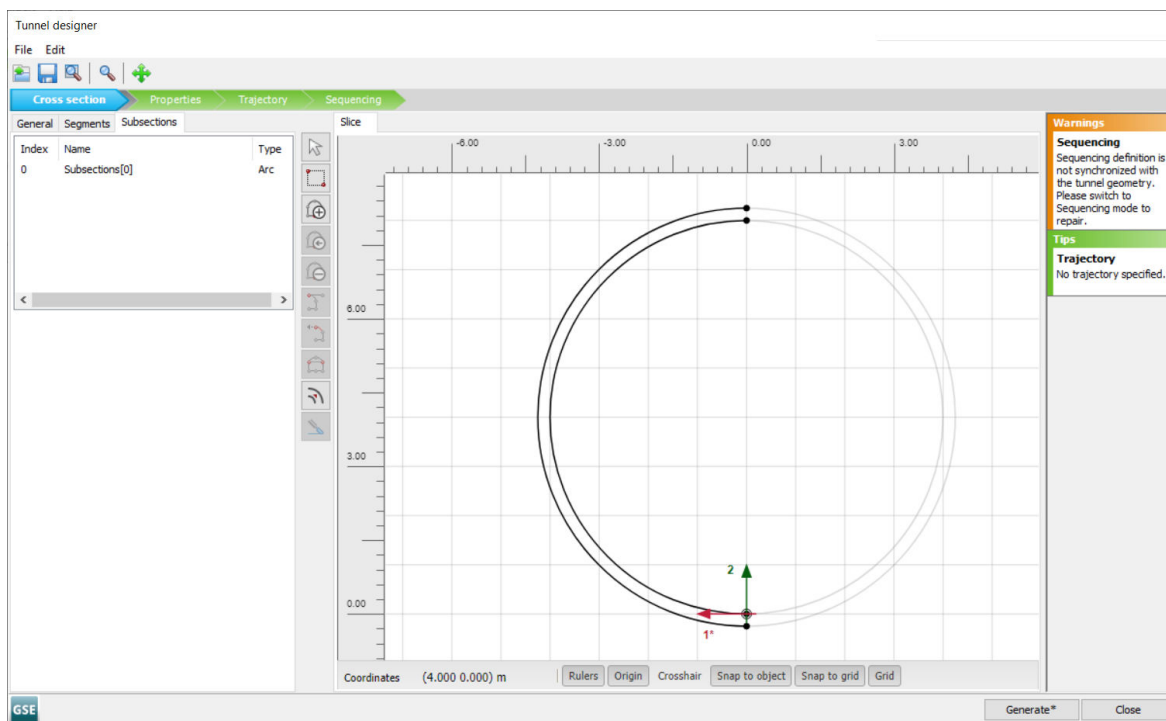

Figure 63: The Cross section tabsheet of the Tunnel designer
- Assign a value of 0.25 m and click **OK**. A screenshot of the **Cross section** tabsheet after the proper assignment is given in Figure 63 (on page 90)